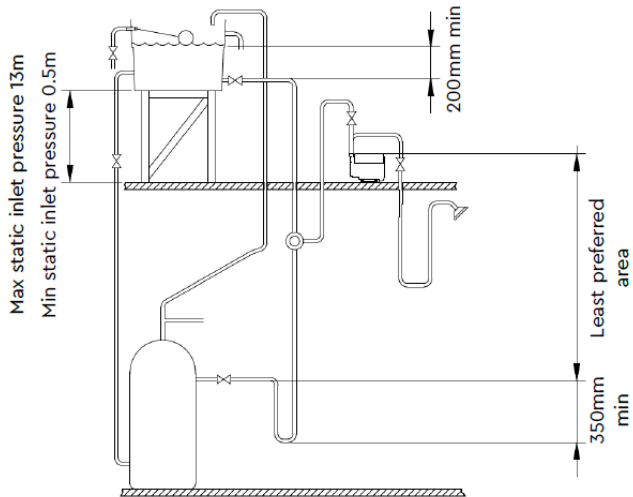
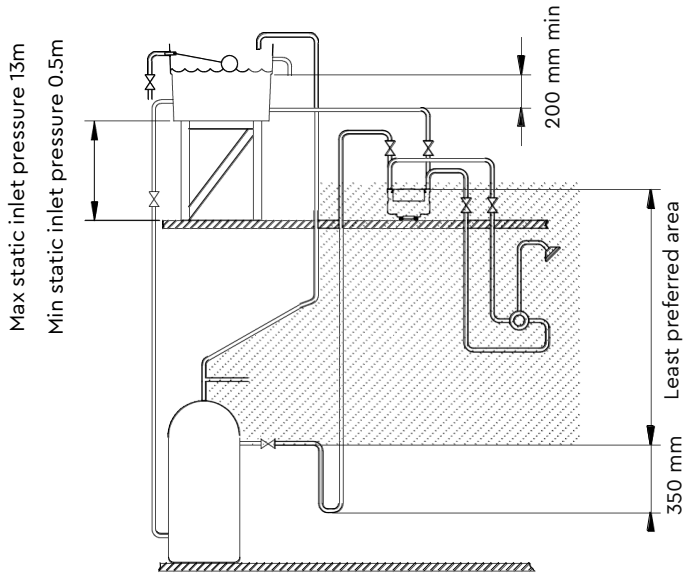

Figure 4
Figure 5
- **Static inlet pressure:** Before deciding where to locate the unit, check to ensure the static inlet head between pump and the bottom of the cold-water tank (Figure 4 and Figure 5), is at least 0.5 metres and does not exceed the max inlet head of 10 metres or 13 metres depending on the model (See Sections 10 and 11 – Technical Specifications).
- The use of a side entry cylinder flange, which should have the addition of an inverted loop ("U" bend) of 350 mm minimum drop before rising to the pump, located as close as possible to the cylinder wall. This will ensure the pump receives an air free supply and the cylinder vents any air up the vent pipe and not the pump feed (Figure 4 Single Pump and Figure 5 Twin Pump).